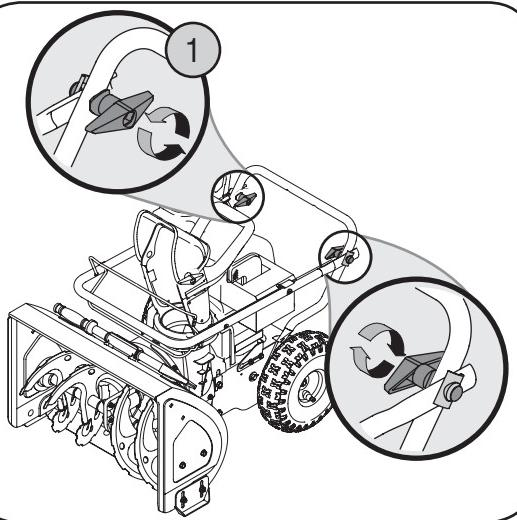

Figure 2
- Loosen the handle knob, saddle washer and handle tab on each side of the handle. See Figure 2.